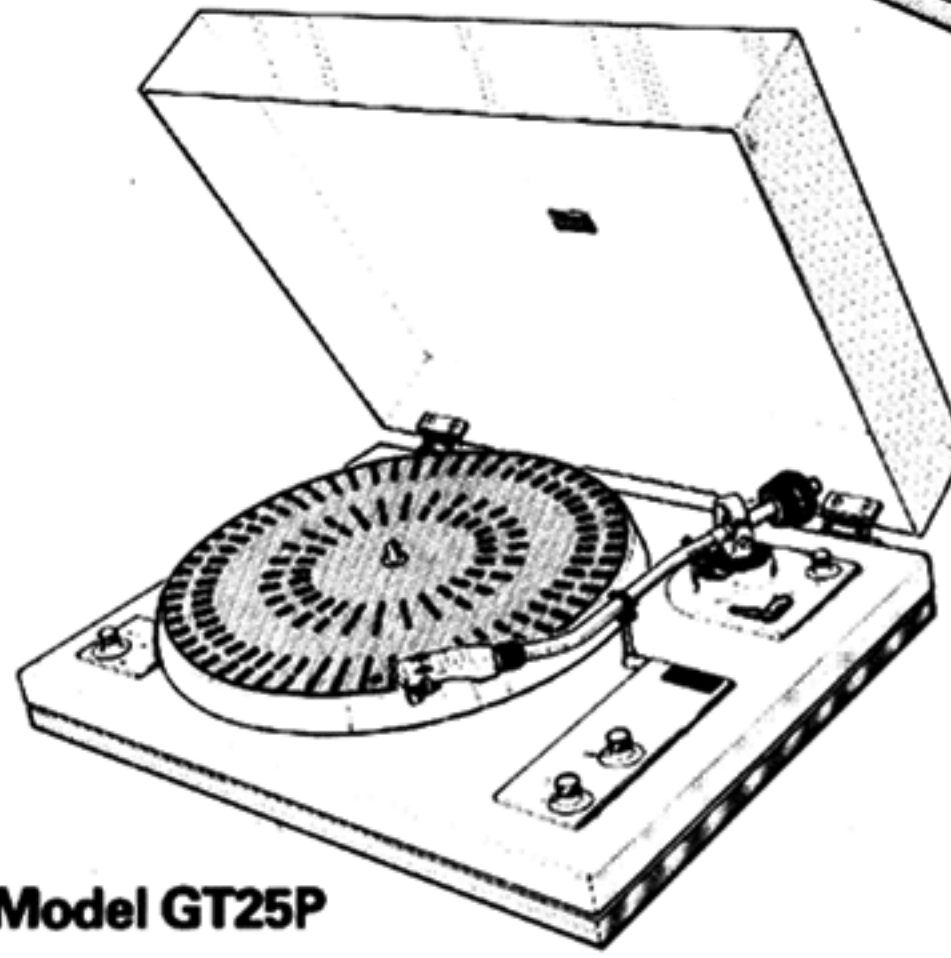

Fig. 3c
- 7 Fit the dust cover. To do this, lift the front of the cover so that both spring-balanced hinges can be fitted to their slots at the back of the base (Fig. 3c).